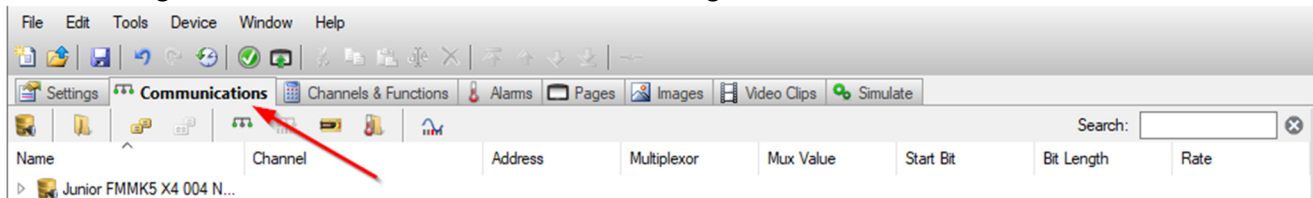

Figure 4.43: Display Creator – communications tab.
2. Navigate to the communications tab as shown in Figure 4.43.